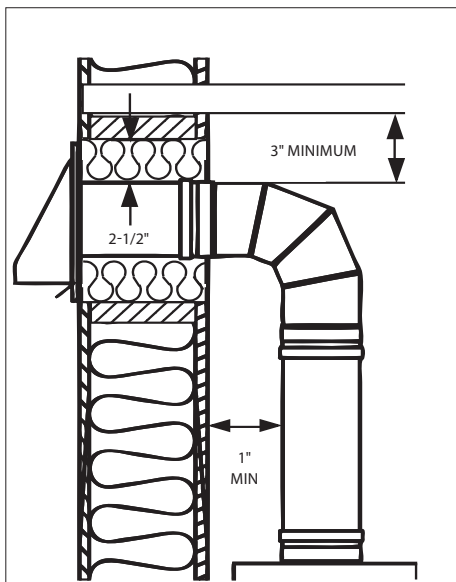

Figure 18
- Proper clearances to combustibles must be maintained over the entire length of the system (refer to **Figure 18**).